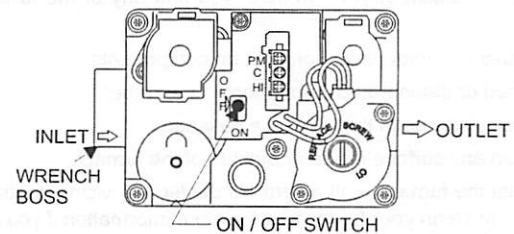

FIGURE 4: Gas Valve
- Move gas control switch to the "OFF" position. Do not force. See Figure 4.
- Wait five (5) minutes to clear out any gas. If you then smell gas, STOP! Follow "B" in the safety information above. If you don't smell gas, go to next step.
- Move gas control switch to the "ON" position. Do not force. See Figure 4.
- After three (3) trials for ignition, if the appliance will not operate follow the instructions, "TO TURN OFF THE APPLIANCE" and call your service technician or gas supplier.
- Move gas control switch to the "OFF" position. See Figure 4.
2. Remove the blower and burner compartment access doors. Disconnect the gas supply piping at the union to permit removal of the entire burner and gas control assembly from the vestibule panel. Use the wrench boss on the gas valve when removing or installing this piping. See Figure 4.